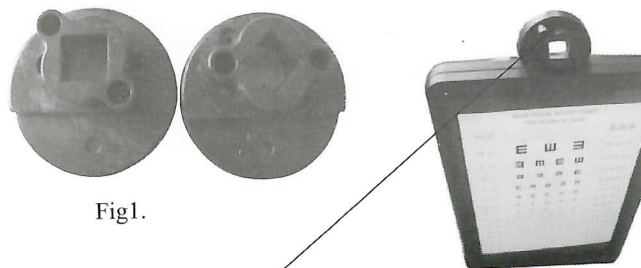

Fig1.
- 6.)Out chart could be hung on a shank of combined table by fixing a black part(Fig1) to test.